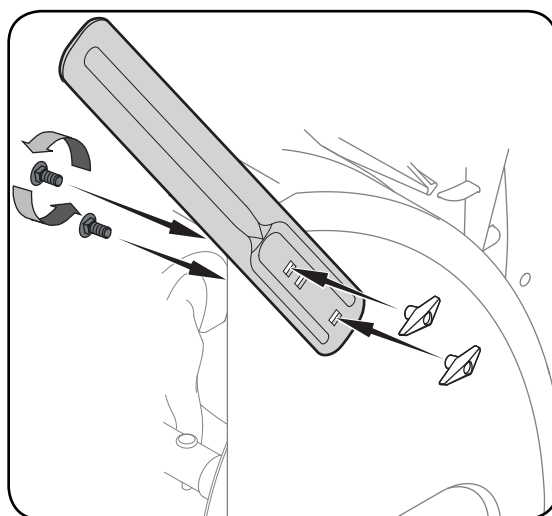

Figure 3-9
- Reposition drift cutters so they face forward as shown in Figure 3-9. Secure with hardware previously removed, wingnuts should be fastened on the **outside** of the housing as shown.